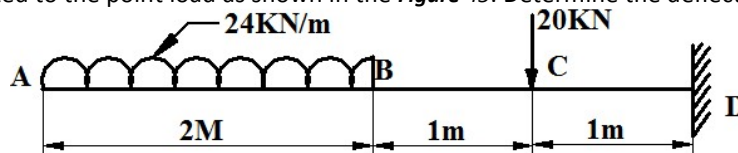

Figure 45
14. A cantilever is subjected to the point load as shown in the **Figure 45**. Determine the deflection at point A and C